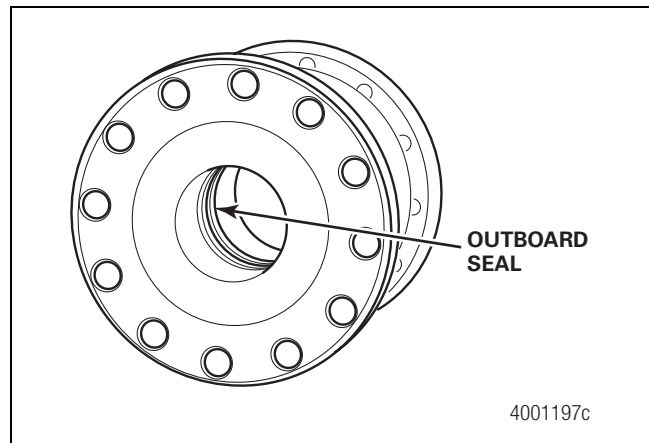
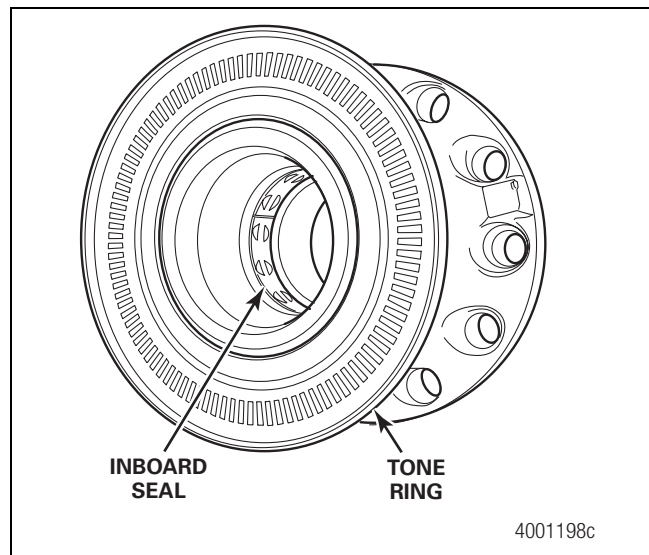

Figure 4.17
Figure 4.18
- A. There is no visible damage to the inboard or outboard seals and the bearings have not become unseated. Figure 4.17 and Figure 4.18.
- B. The tone ring is not damaged or bent. Figure 4.18.